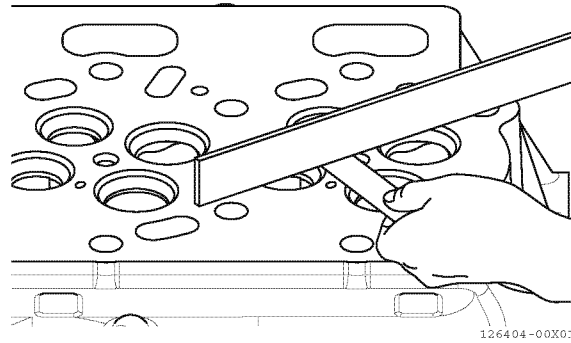

Fig.14-6
1. Place the cylinder head flat and inverted (combustion side up) on the bench. Use a straight edge and a feeler gauge to measure cylinder head distortion (Fig.14-6). Measure diagonally and along each side. For standard value, see 0000-07-01-01 "Cylinder head".